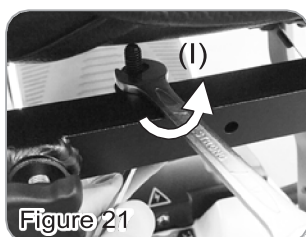

Figure 21
1. Loosen the screws (I) by wrench and hex key.
2. Press the springs (J) to remove from the seat slide bracket.
3. Pull down and hold the seat springs to release the seat latch (K).
4. Push the seat bracket (L) by thumbs towards the back of the scooter to release the seat from the latch.
- ❖ When putting the seat back, insert the seat back to the seat slide bracket. Push the seat towards the front of the scooter (green point), fasten the screws (Figure 21) and insert the springs back to the seat slide bracket (J).